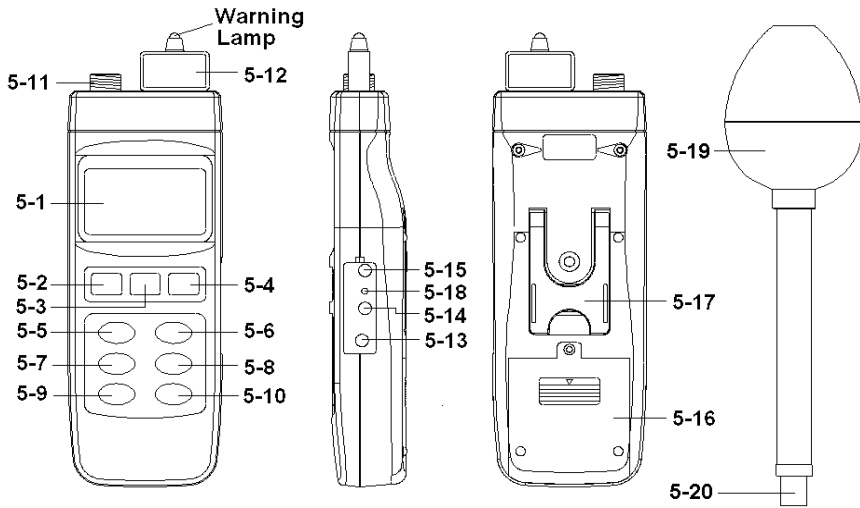

Fig. 1
2) After select convenient the probe, then plug in the exclusive " Probe Memory Card " (5-12, Fig. 1) into the front end socket of meter.
* Make sure to use the " Frequency Team Button " (5-5, Fig. 1) to select the convenient frequency value of measuring object.
After inserting the " Probe card " (5-12, Fig. 1) and connecting probe's plug into the " Probe Input Socket " (5-11, Fig. 1), use " Unit Button " (5-6, Fig. 1) to select the " V/m, W/m², mW/cm² ".
1) Use the " Freq. Team Button " (5-5, Fig. 1) to select the approx. measuring object frequency value.
2) Make sure to use the " Frequency Team Button " (5-5, Fig. 1) to select the convenient frequency value of measuring object. However if you don't know the exact information, the meter will default to 1 GHz (EP-03H probe) or 1 MHz (EP-04L probe) after power on.
- 1) Power off the meter, use two fingers to press the " Alarm Button " (5-8, Fig. 1) and the " Logger Button " (5-10, Fig. 1) together continuously, then power on the meter by press the " Power Button " (5-2, Fig. 1). After power on, release all the fingers.
- 2) * Press the " Unit Button " (5-6, Fig. 1) continuously and > 2 seconds, the bottom display will show X_axis , then release the button, the upper display will show the EMF value of X direction.
- * Press the " Unit Button " (5-6, Fig. 1) continuously and > 2 seconds, the bottom display will show X_axis , then release the button, the upper display will show the EMF value of X direction.
- * Press the " Unit Button " (5-6, Fig. 1) continuously and > 2 seconds, the bottom display will show " V/m " , then release the button, the upper display will show the total EMF value of XYZ direction (refer page 8).
- 1) Press the "Alarm Button " (5-8, Fig. 1) once to start the alarm function, while the " units " symbol will flash on the display.
- 2) Press the " Alarm Button " (5-8, Fig. 1) once again to stop the alarm function.
- 3) Press the " Alarm Button " (5-8, Fig. 1) continuously and over 2 seconds, the "Alarm low limit value " will indicate on the lower display, use the " ▼, ▲ Buttons " to adjust the desiring low limit value.
- 4) Press the " Enter Button " (5-4, Fig. 1) will save the low limit value and going to adjust the " High limit value, procedures will similar as above.
- 5) After finish the " High limit value " adjustment, press the " Enter Button " (5-4, Fig. 1) will save the high limit value and going to adjust the alarm Hysteresis value, procedures will similar as above. Upon finish the alarm " Hysteresis value " adjustment, press the " Enter Button " (5-4, Fig. 1) will save the data.
- 6) Press the " ESC Button " (5-3, Fig. 1) to finish alarm setting procedures.
During the measurement, press the " Hold Button " (5-3, Fig. 1) once will hold the measured value & the LCD will indicate a " HOLD " symbol.
- * The data record function records the maximum and minimum readings. Press the " REC Button " (5-4, Fig. 1) once to start the Data Record function and it will be a " REC " symbol on the display.
- a) Press the " REC Button " (5-4, Fig. 1) once, the " REC MAX " symbol along with the maximum value will appear on the display.
Press the " REC Button " (5-4, Fig. 1) once again, the " REC MIN " symbol along with the minimum value.
If intend to delete the maximum (Minimum) value, just press the " Hold Button " (5-3, Fig. 1) once, then the display will show the " REC " symbol only & execute the memory function continuously.
- b) To exit the memory record function, just press the " REC Button " (5-4, Fig. 1) 2 seconds continuously at least. The display will revert to the current reading.
Press the " Peak Hold Button " (5-7, Fig. 1) once to latch peak value on the display , press once again to defect.
- a) If press the Logger Button " (5-10, Fig. 1) once will show the sampling time value on the bottom left display then disappeared.
- b) Press the " REC Button " (5-4, Fig. 1) once to start the Data Record function and it will be a " REC " symbol on the display.
Press the " Logger Button " (5-10, Fig. 1) once to start the Auto Data Logger function, at the same the bottom right display will show the indicator " Recording.... ", now the Data Logger function is executed. The upper display will show " DATA " indicator along with " REC " marker.